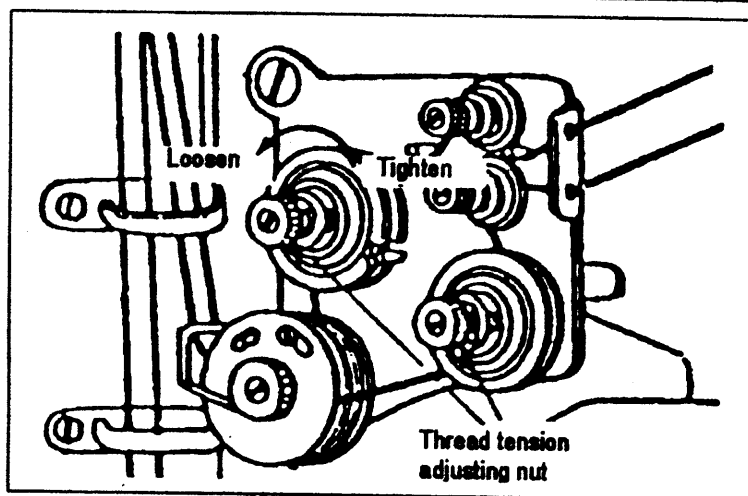

Fig.7
- 2) Tension of the upper thread (Fig.7)